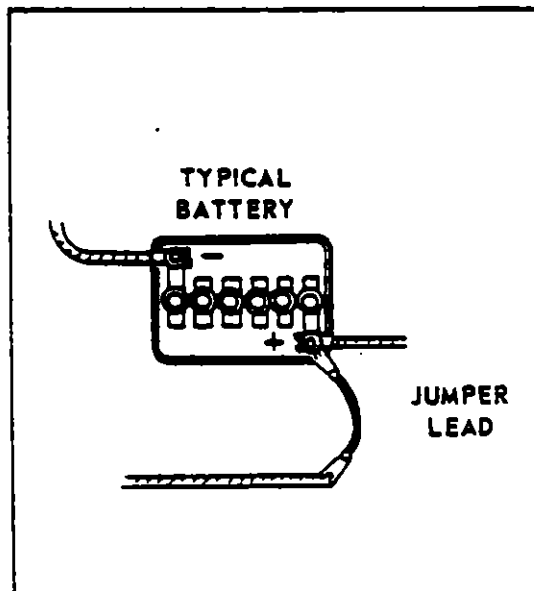

FIGURE 9-25. JUMPER CONNECTION
d. If meter reads zero voltage, disconnect lead at alternator "F1" (field) terminal, and connect a jumper lead from this lead to the battery positive (+) post. See Figure 9-25.